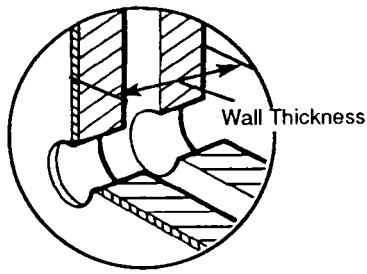

Fig. 61
3. Measure the wall thickness and from this dimension subtract 10mm ( $\frac{3}{8}$  in) (Fig. 61).